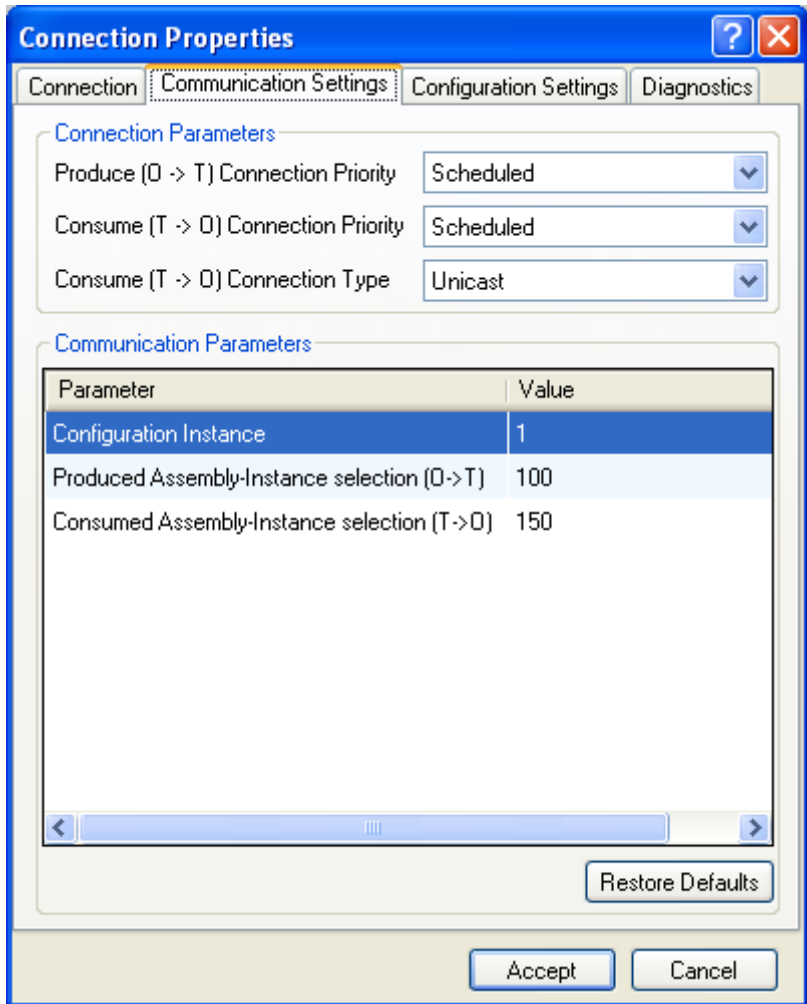

Figure 47: Generic Device Communication Settings
- Configure the Communication Settings (refer to section 10.12 and Figure 47). The parameters have been defaulted to commonly used values. Modify the Connection Parameters and Communication Parameters as necessary.
5. Configuration of the Communication Settings is identical to the Generic Device (refer to section 10.12 and Figure 47). The parameters have been defaulted to commonly used values. Modify the Connection Parameters and Communication Parameters as necessary.